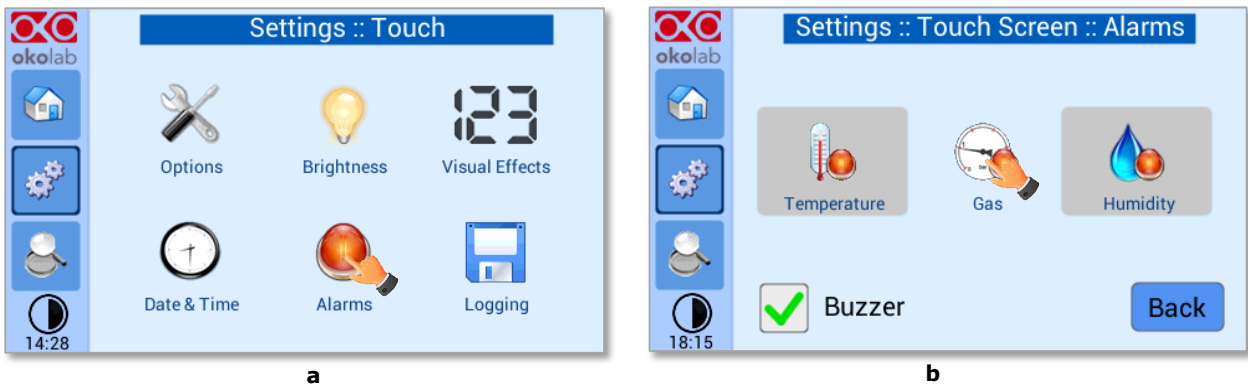

Figure 57. How to enter in Alarms page (a - b).
To set the alarms specifications, press the *Alarms* icon  (see Figure 57 a), then follow the indications below:
1. Click on the Gas icon  to set the gas deviation for a period of time then the system triggers on Alarms, as shown in the Figure 57 b.